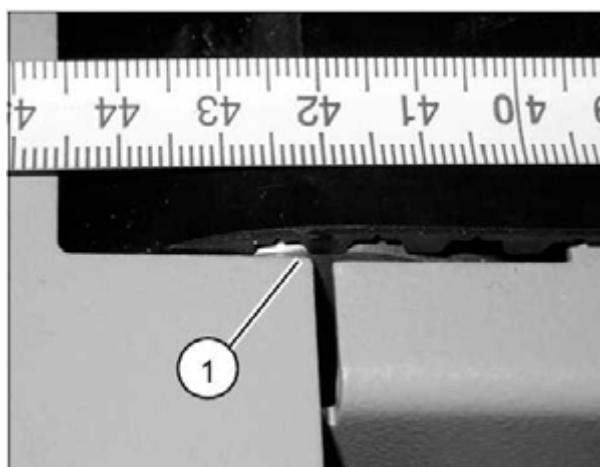
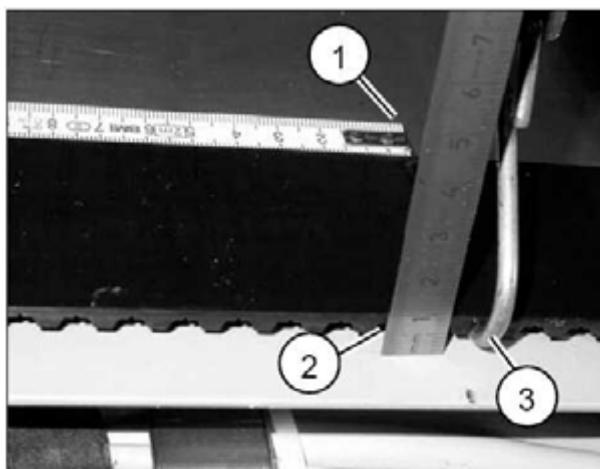
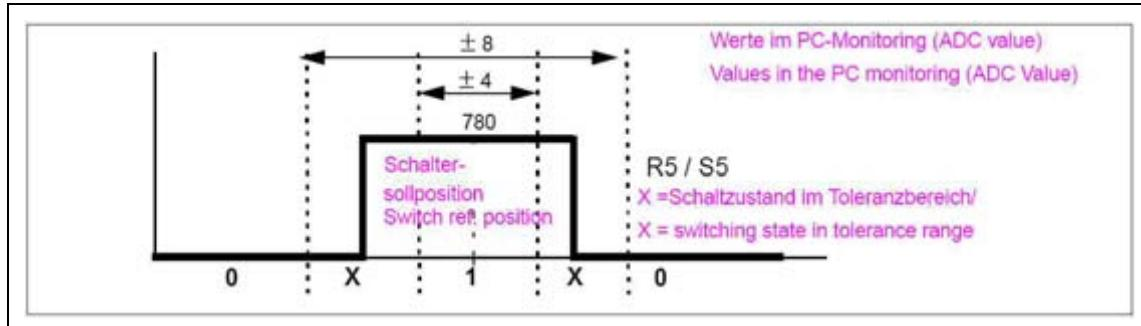

Fig. 9: Measurement_1
Fig. 10: Measurement_2
Fig. 16: Switching hysteresis S5
- The distance from the center of roller (1/Fig. 9 / p. 45) to the end stop (1/Fig. 10 / p. 45) is $420 \pm 5\text{mm}$.
- Attach the spring balance (3/Fig. 10 / p. 45) and lift it with a force of $20\text{ N} + 5\text{ N}$.
- It must be possible to raise the belt $3\text{ mm} + 1\text{ mm}$ (2/Fig. 10 / p. 45).
- Check the switching hysteresis of reference switch S5 according to (\(Fig. 16 / p. 50\) Fig. 9).